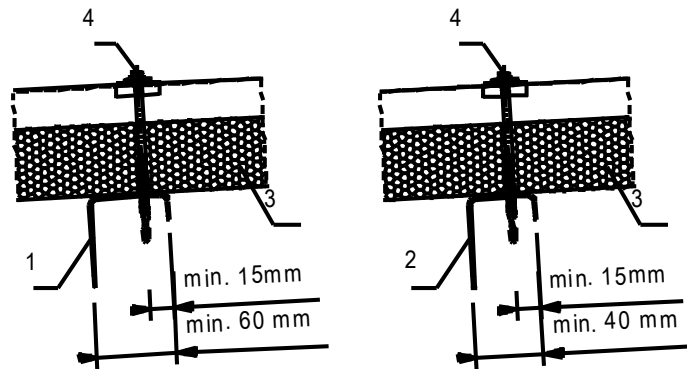

fig. 8
h. The distance between the fastener and the edge of the support should not be less than 15mm (Fig.8)